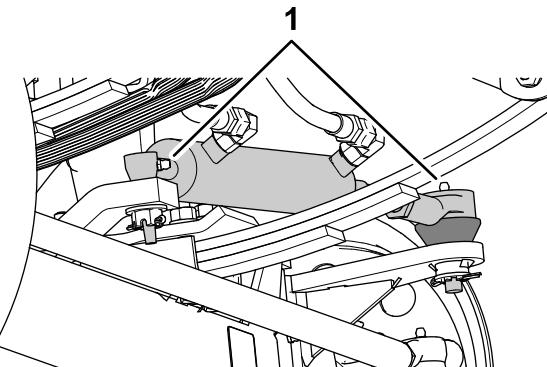
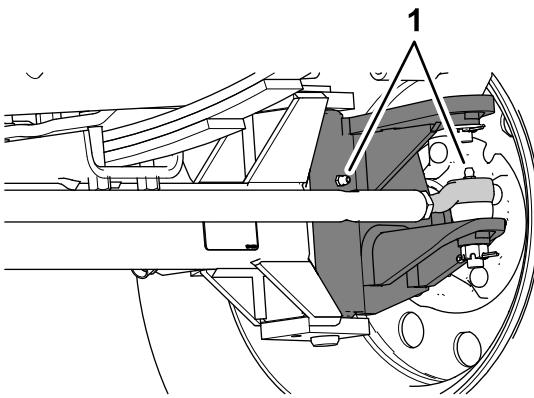

Figure 66
Figure 67
1. Wipe the grease fittings clean (Figure 66 and Figure 67).
2. Pump grease into the grease fittings (Figure 66 and Figure 67).
Note: The grease fittings positions are illustrated in Figure 66.